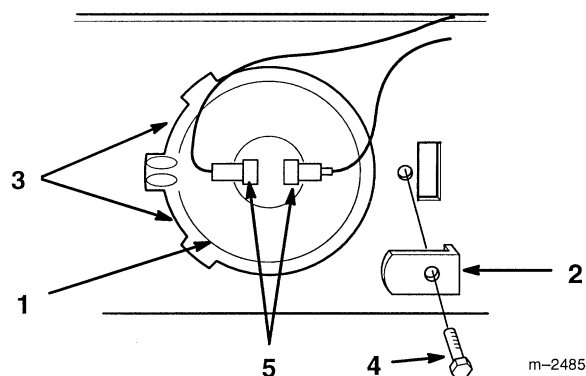

Figure 33
3. Remove screw securing retainer bracket (Fig. 33).
4. Lift and twist bulb out of pocket (Fig. 33).
1. Locate index boss horizontal and twist bulb under tabs on left side of pocket (Fig. 33).
2. Hold bulb in socket with retainer bracket and secure with screw (Fig. 33).
3. Push wire connectors onto bulb terminals (Fig. 33).